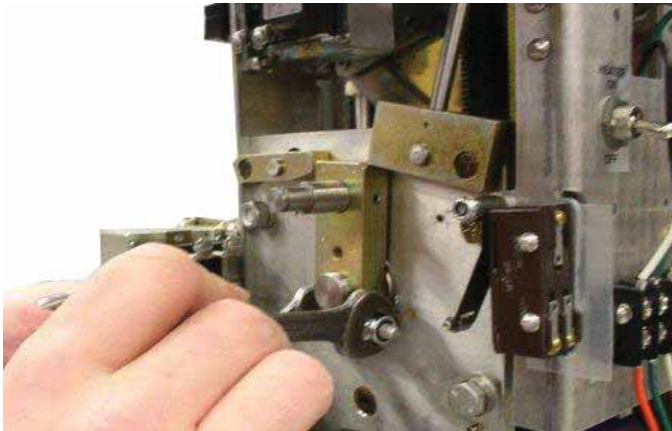

Figure 31.
- g. Using a 7/16" wrench, loosen the clamping bolt and nut on the VR-68 crank lever. Refer to Figure 31.